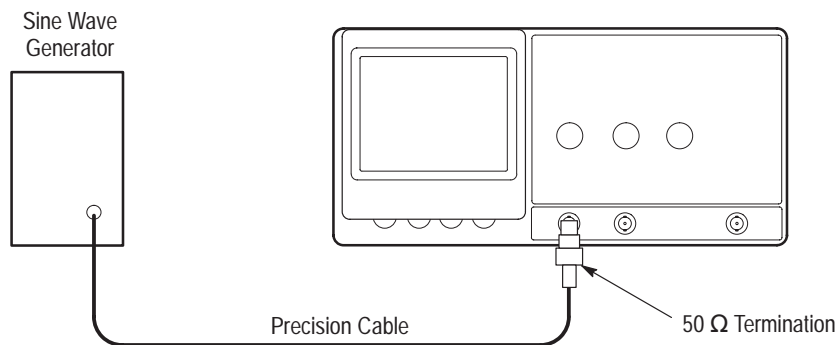

Figure 5: Trigger level check setup
- Use the 50 Ω precision coaxial cable to connect the output of the leveled sine wave generator to the 50 Ω termination; then connect the 50 Ω termination to the TAS 200 series instrument CH 1 input. See Figure 5 below.